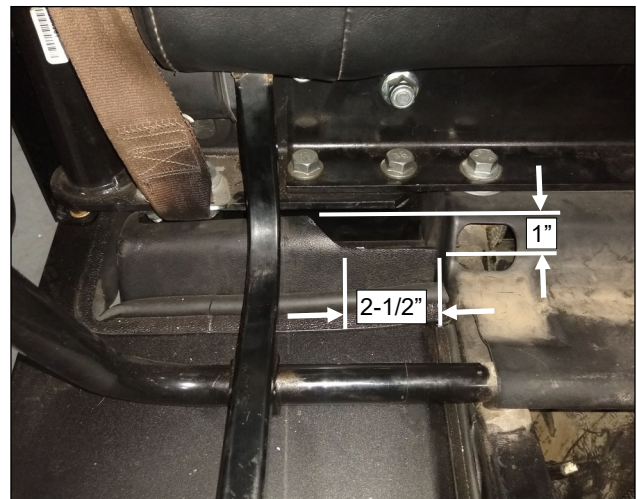

Fig. 1.5 Right Side Vehicle Panel
- 1.5 Per fig. 1.5, mark & cut the plastic vehicle panel under the front seat on the right side as shown. (**2-1/2" outboard & 1" down**).